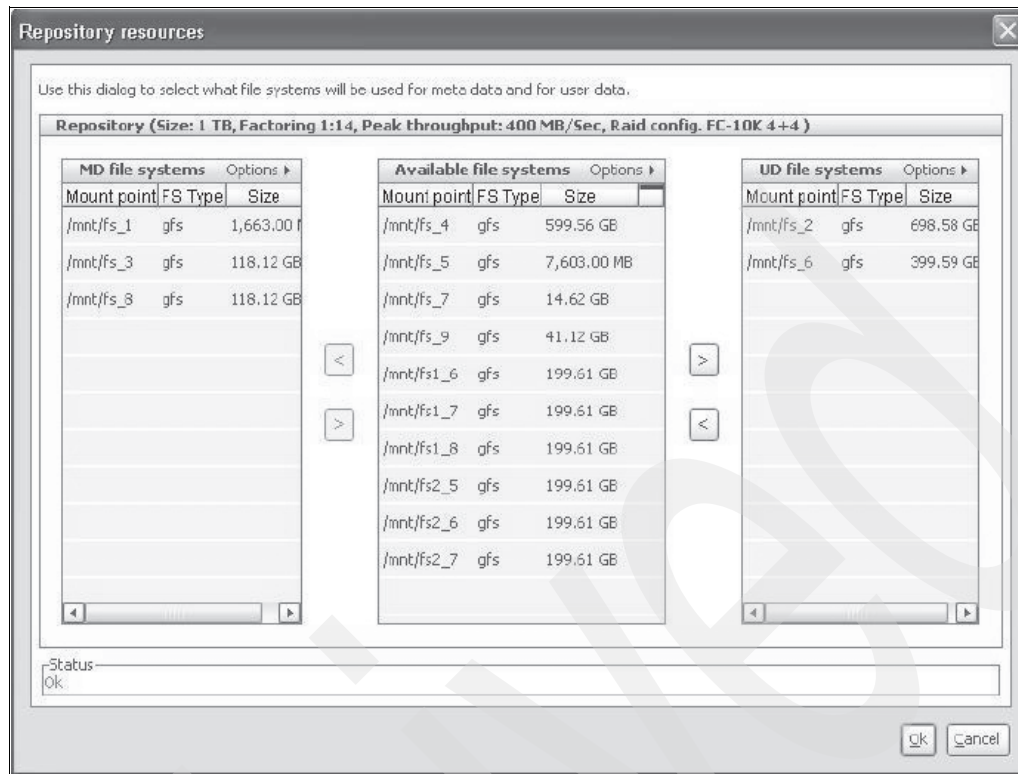

Figure 6-34 PT Manager_Repository resources
- e. Disk Size (GB) - Select disk size to match those in the array.
6. Click **Next**. The Repository resources dialog opens. See Figure 6-34 on page 121.